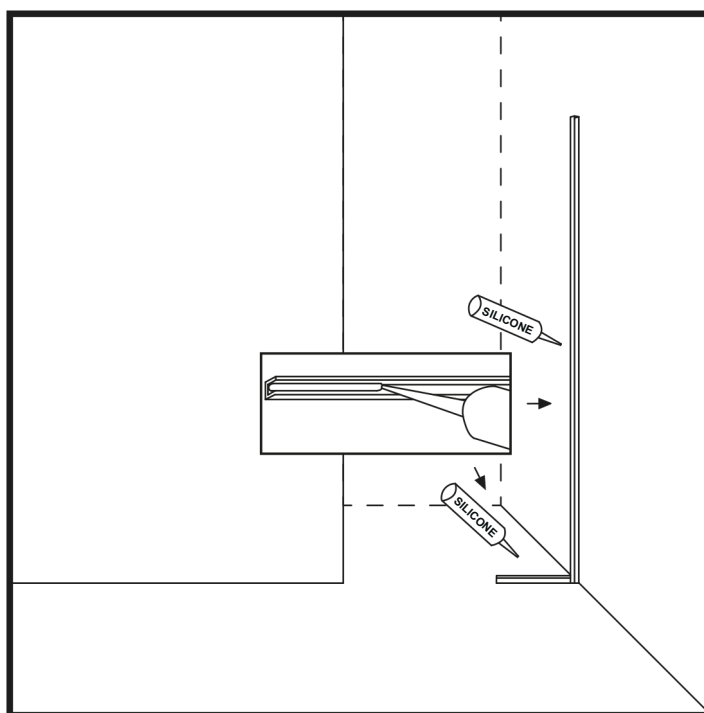

Figure 6
15. Fill the U-profiles on the wall and floor with an even silicone strip. (Figure 6)